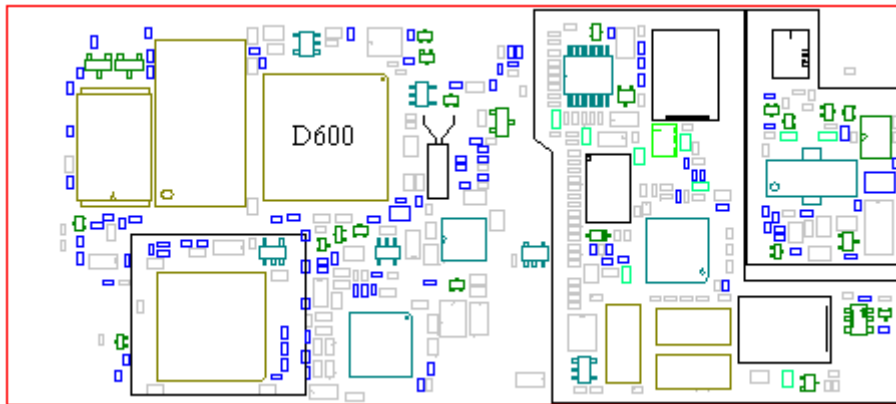

Fig. 8.4
- If the phone passes the test but doesn't connect calls made in the "real" mobile network, make sure the phone hasn't **locked out from the system due to theft**. If it hasn't, replace D600 (class B, fig. 8.4).